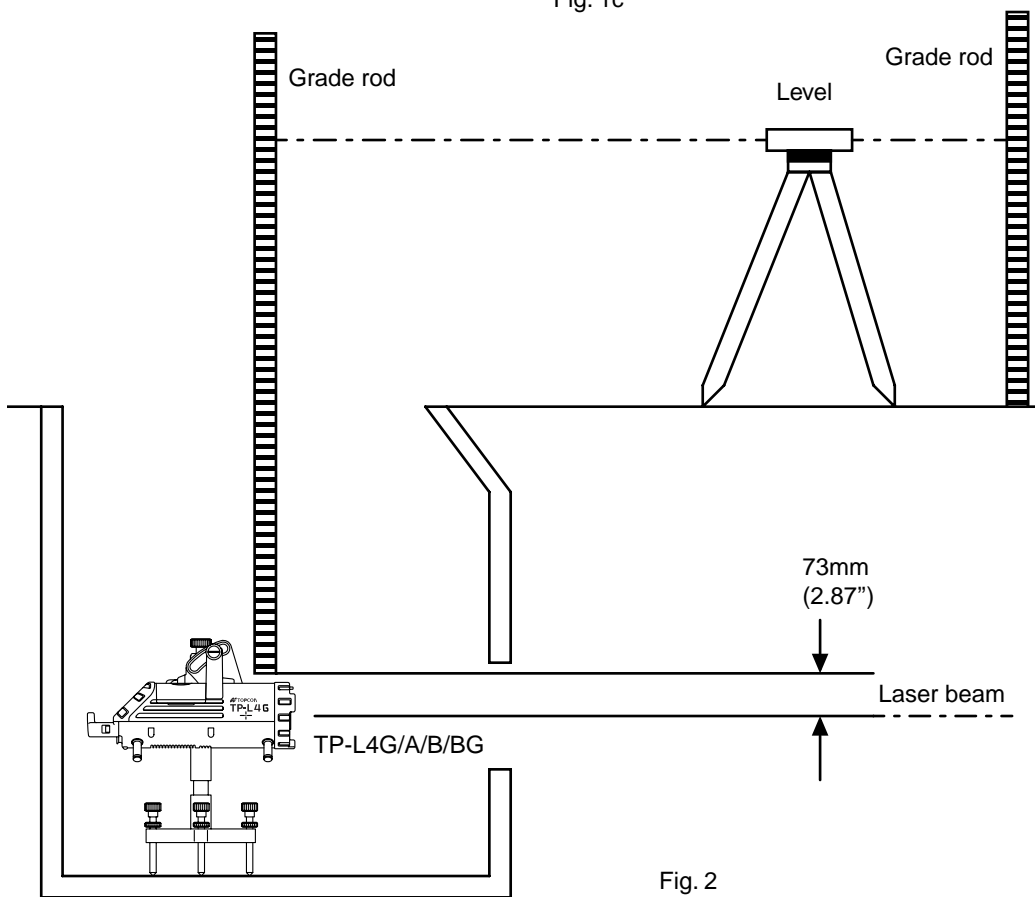

Fig. 2
- 2** Set up a level or rotating laser between the manhole and offset hub. Take a rod reading on the hub and add this reading to the cut indicated on the guard stake. (Fig. 2)
- 3** Place the grade rod on the top of the Rod Handle Mount clamp (if using leg set, elevation transfer is not necessary due to the fact that the pre-poured invert must be placed at the correct elevation). When measuring from the clamp, remember to add the offset distance to center the beam. (73mm or 2.87 inches) (Fig. 2)